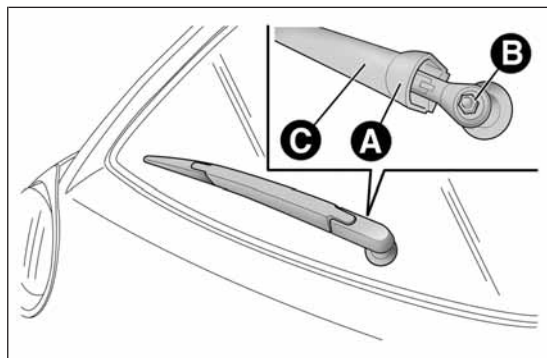

fig. 168
- ❑ raise cover A fig. 168, undo nut B and remove arm C;